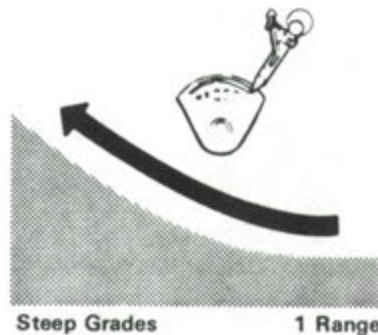

Figure 4.
c. Steep Grades. Use 1 range for climbing and descending steep grades (figure 4) and 1-2 range for moderately steep grades (figure 3).